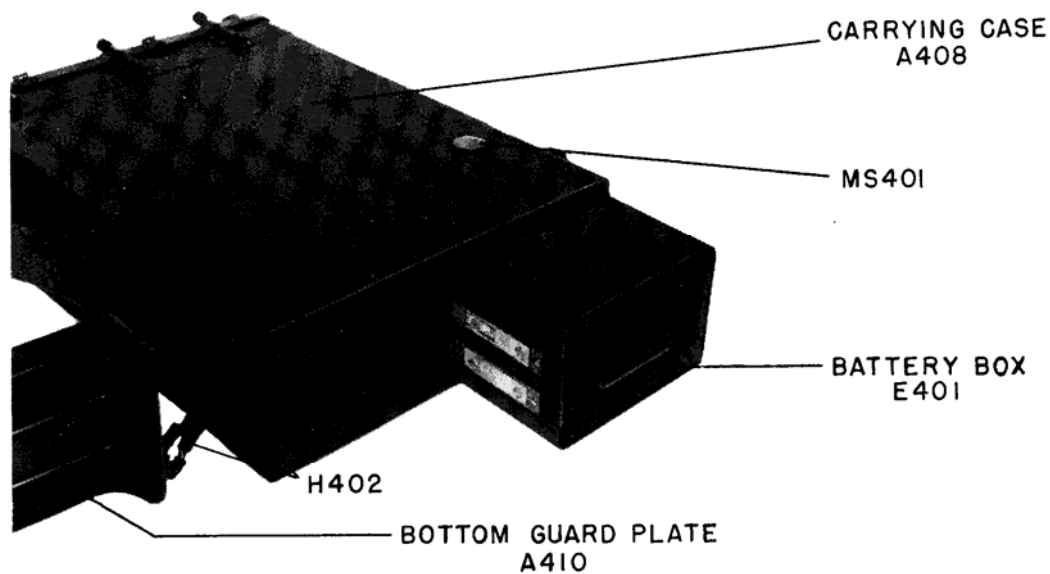

Figure 3-3. Installation of Battery Assembly
c. BATTERY ASSEMBLY INSTALLATION. — After the battery assembly has been filled with electrolyte and charged, loosen the four spring catches on the bottom guard plate A410 of the carrying case, and swing the plate out of the way on the two captivated catches. See figure 3-3. This will expose the battery compartment in the bottom of the case. On the inside wall of the compartment are two pressure spring contacts designed to make electrical contact with the two contact straps on the side of the battery box. Give the battery assembly a final inspection to determine if the filler plugs are screwed down tightly against the gaskets, that the breather tubes are pressed down over the battery vents and connected to the vent openings in the side of the battery box. Check battery cable connections for tightness. Grasp the handle on the bottom of the battery box; and with contact straps in position to meet the springs on the inside wall of the battery compartment, insert the battery assembly, open end first, until it presses against the sponge rubber gasket. Replace the bottom plate on the carrying case and fasten the four catches. The bottom plate should press the battery assembly firmly against the sponge rubber gasket so that it seals the top of the battery box and makes the battery assembly submersion proof when in the compartment.